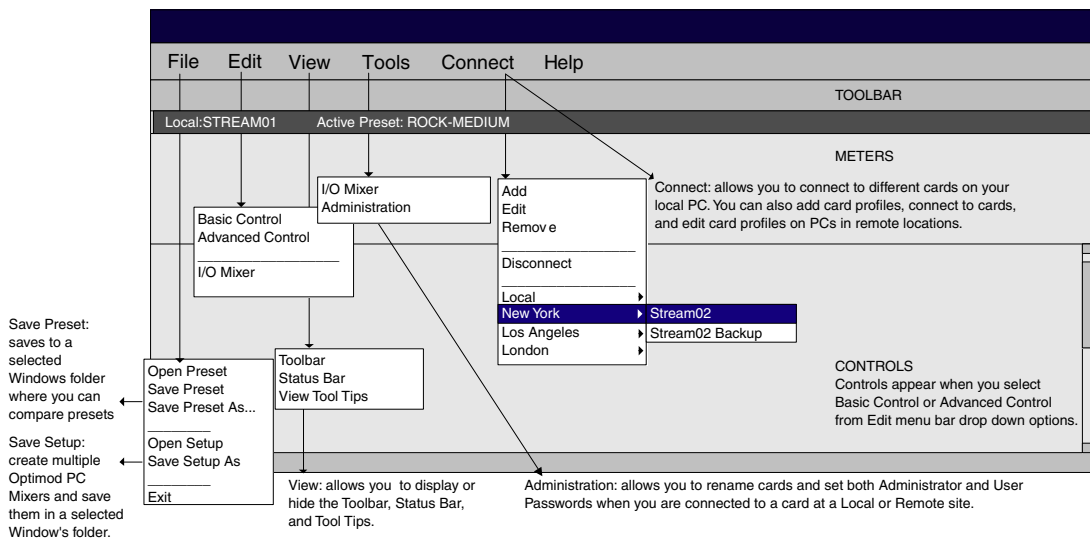

Figure 2-4: The Orban Control Application
- A) Start the Optimod-PC control application, `Optimod.exe`, by clicking its icon ("agent") in your computer's system tray, or from Start > Programs > Orban > Optimod-PC. (See *Figure 2-4* on page 2-5.)